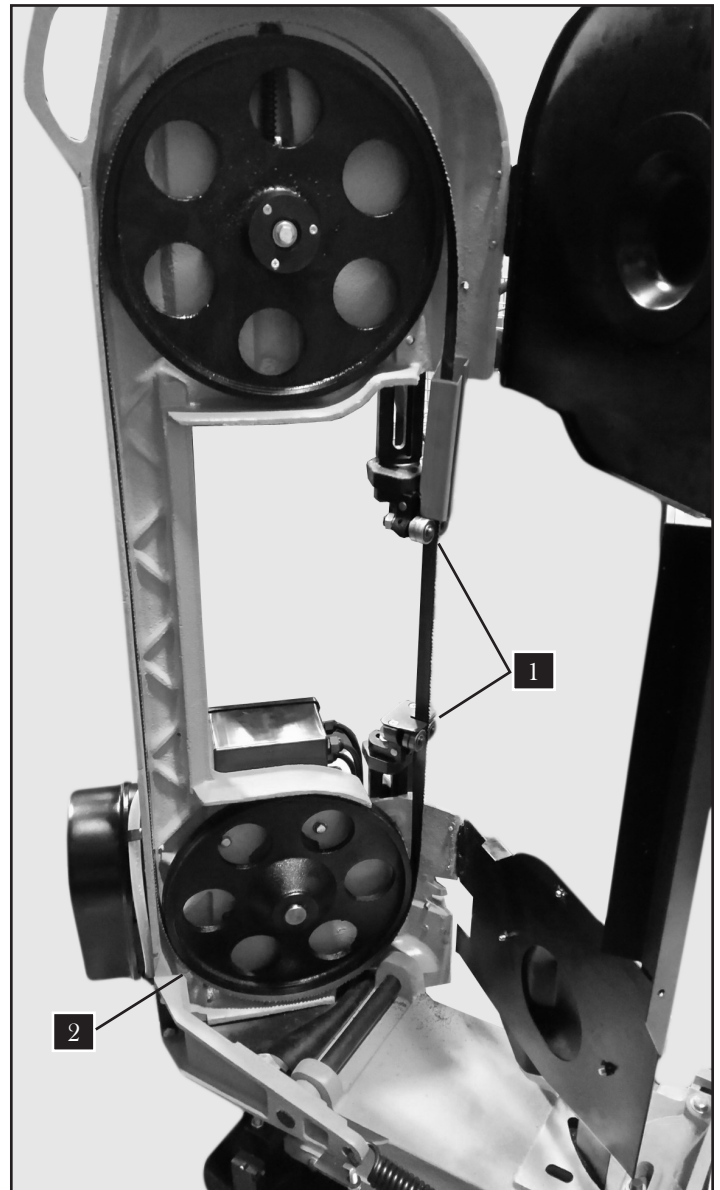

Fig. 29
8. Install the new blade. Place the blade between the blade guide bearings first (Fig. 29 - 1). Make sure the blade teeth are facing outwards and in the same direction as indicated on the saw arm label.
9. Carefully wrap the blade around the bottom wheel (Fig. 29 - 2). Hold the blade around the bottom wheel with one hand and slip it around the top wheel with the other hand, keeping the blade between the blade guide bearings. The blade should be positioned next to but not tightly against the wheel flange.